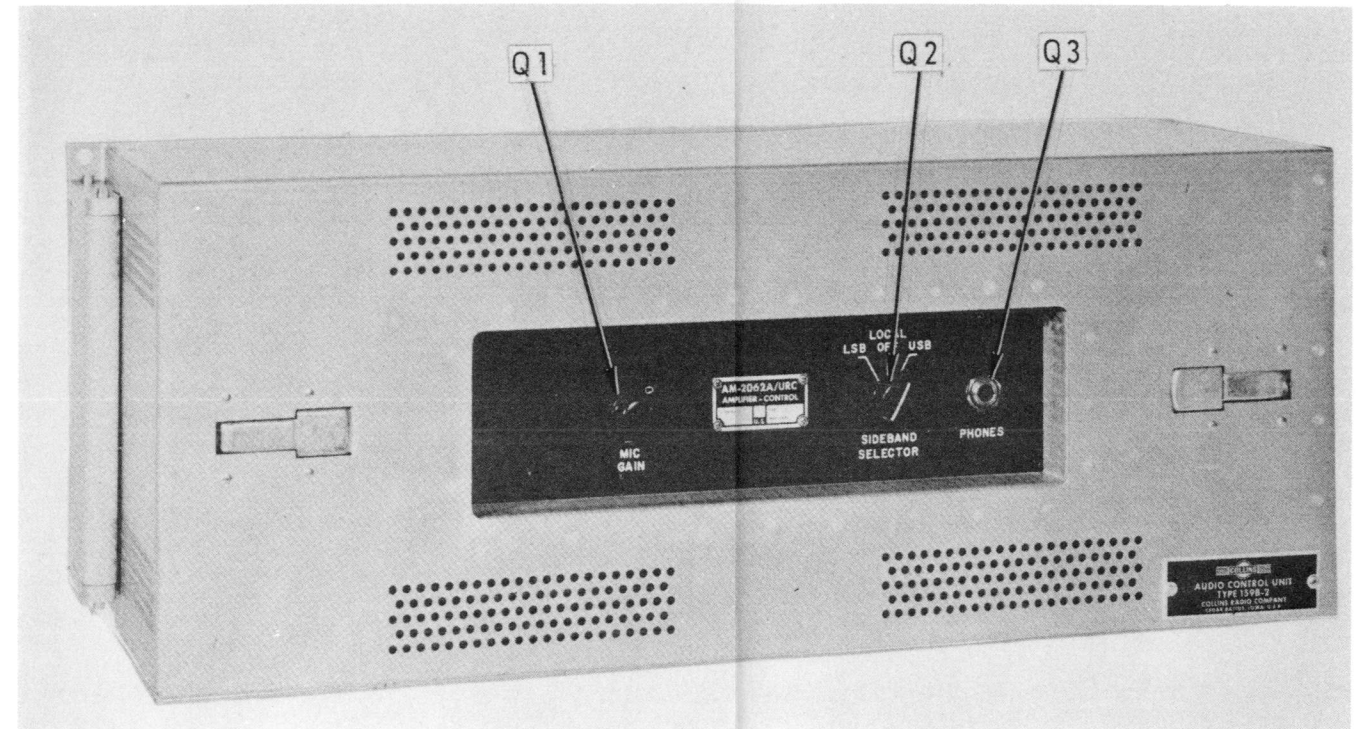

Figure 2-6. Amplifier-Control
Use the amplifier-control servicing diagram, figure 4-24, and table 3-1 (volume 2) of NAVSHIPS 93285(B) to match the indicators and controls called out in figure 2-6 of this text (page 2-69) with their circuit and transceiver functions.